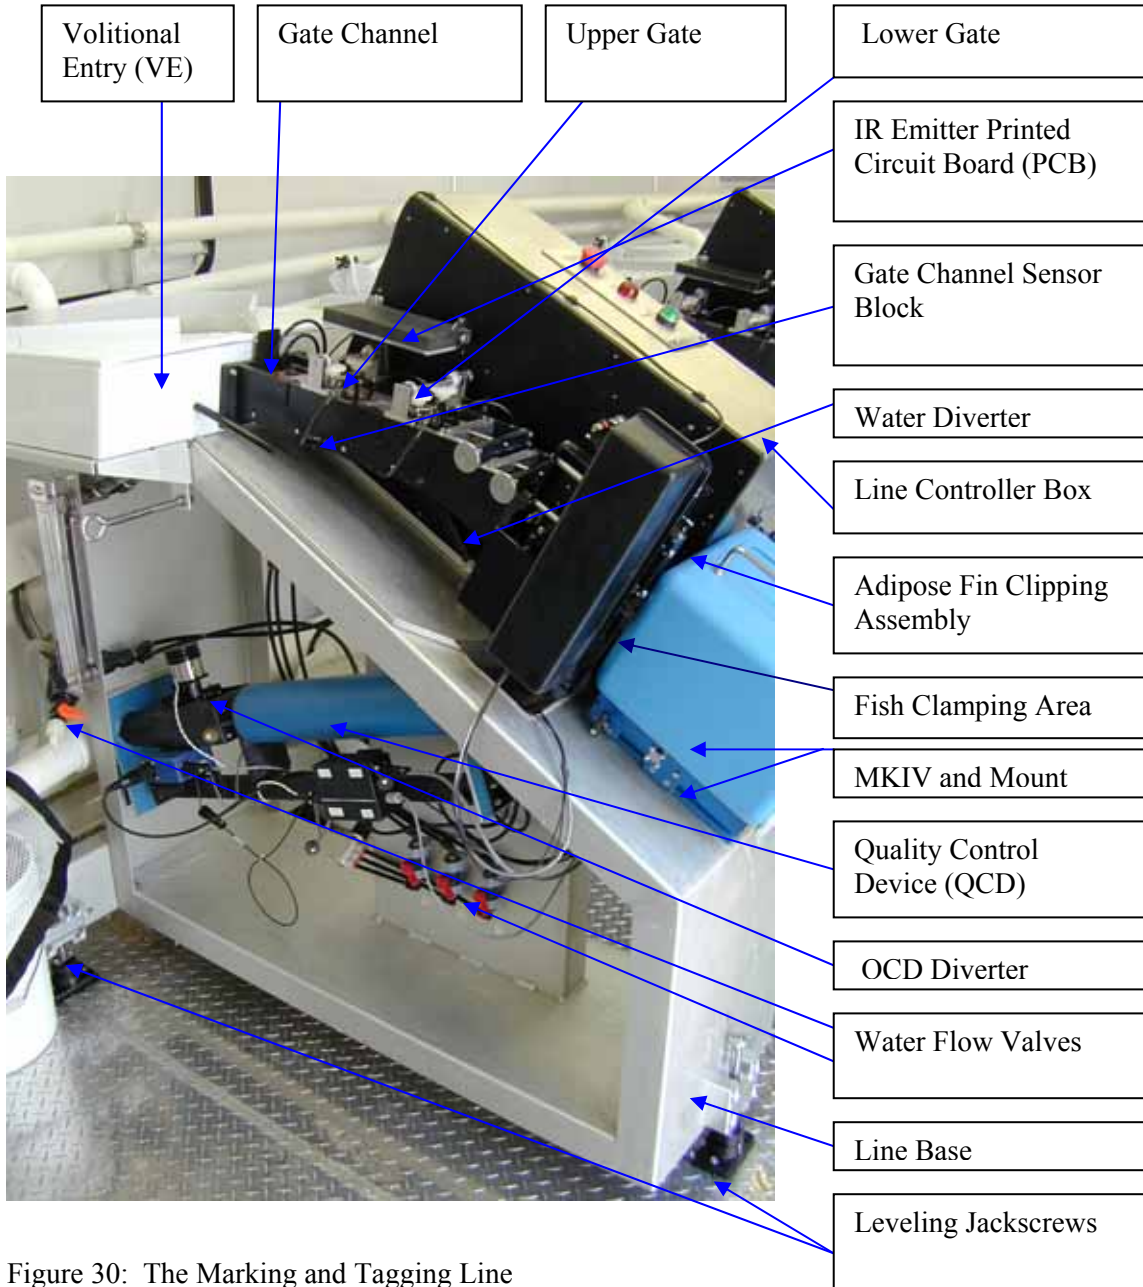

Figure 30: The Marking and Tagging Line
The gate channel mechanism, mounted to the line controller box and VE shown in Figure 30 controls the fish between the VE and the processing area. The internal walls and top of the gate channel are manually adjusted for different sized fish. The channel height and width adjustments are made by turning the appropriate adjustment knob on the side of the channel.
As fish travel through the gate channel their location is tracked using sensors. The sensor system on the gate channel consists of two parts; the infrared (IR) emitter PCB and the sensor block. Mounted just over the gate channel is the IR emitter PCB (Figure 30) which emits light through the clear gate channel cover and interfaces the sensors mounted below the channel. Once the fish breaks the light connection between the emitter and the sensor, the software then knows the location of the fish within the gate channel. There is a sensor just above the upper gate, eight sensors between the upper and lower gate, and one sensor at the lower gate.